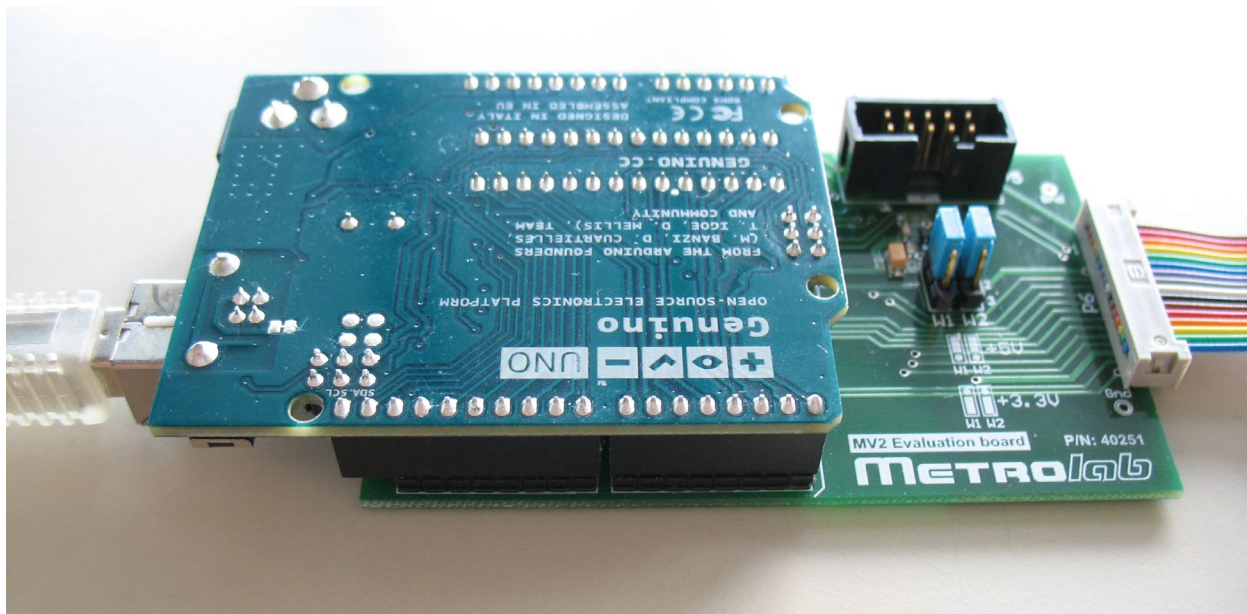

Figure 20. Arduino/Genuino UNO connected to MagVector MV2 test board.
As shown in Figure 20, the Arduino UNO’s connectors mate exactly with those on the test board: the Arduino UNO Digital headers (IOL and IOH) connect to P1 and P2, respectively, on the test board; the Arduino UNO Analog (AD) and Power (POWER) headers connect to P3 and P4, respectively, on the test board. Note that the last two pins of the Digital header (IOH-9 – SDA and IOH-10 – SCL are not connected to the test board.